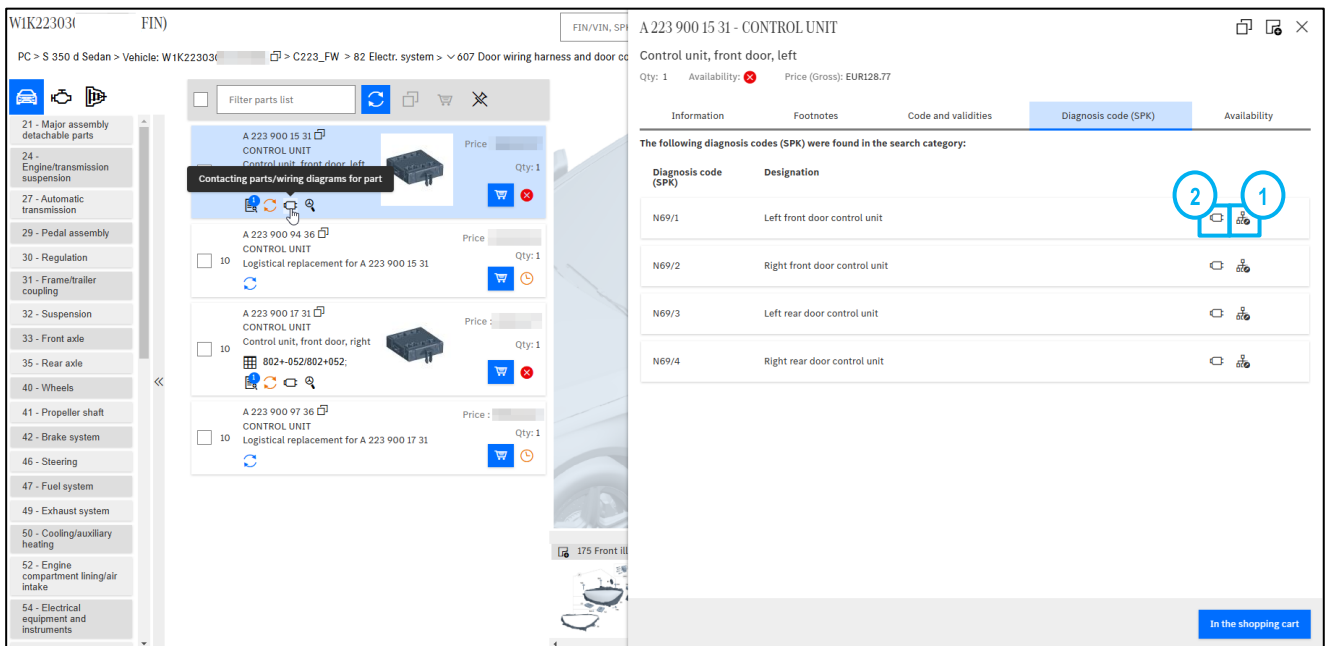

Figure 48 "Call up wiring diagram (1)"
Clicking on the symbol for the contacting parts from the control unit overview (Figure 48 ②) starts the search for contacting parts for this part. All matching contacting parts are displayed: